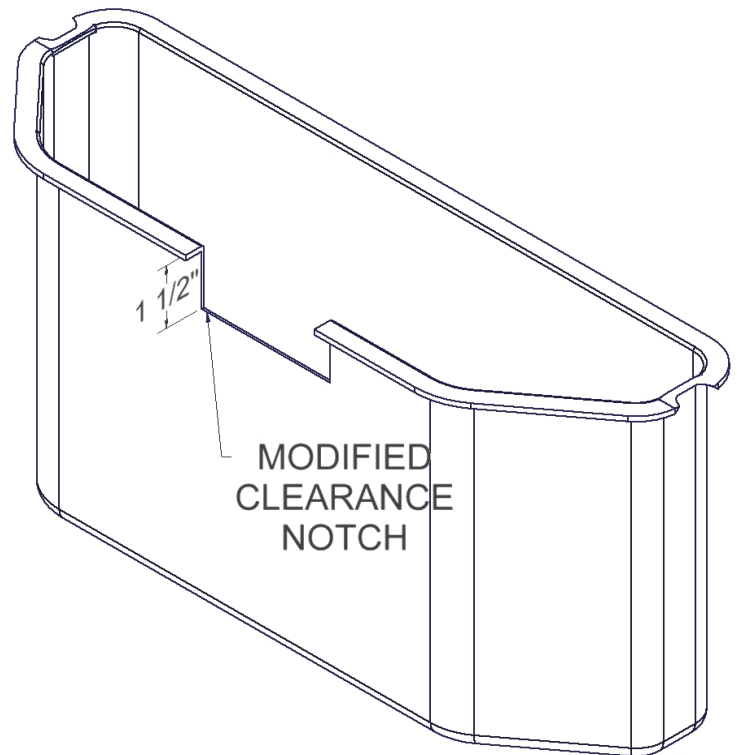

FIGURE 3
1. In order to clear the lock bracket, a notch must be cut in the upper forward edge of the plastic liner. This notch is located between the 7cm and 16cm marks (formed in the lip of the liner) and extends down 1½" from the upper lip of the liner. (SEE FIGURE 3)